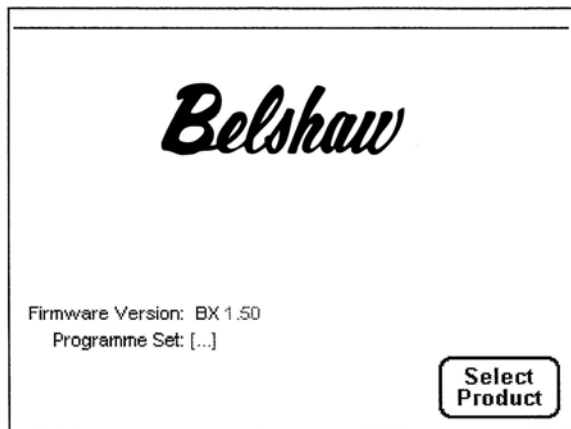

Figure 1-2
1. Press the Stop button to get to the first screen (see Figure 1-2).